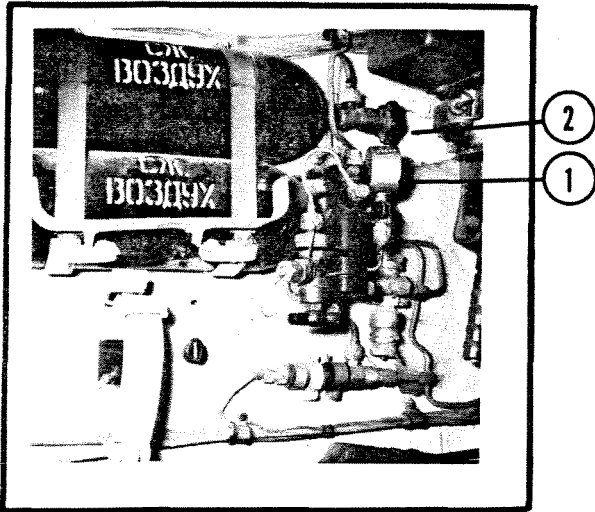

FIG. 2-8. AIR BOTTLES
b. Compressed Air Bottles (Fig. 2-8)
Two 5-liter compressed air bottles are mounted on brackets on the left hull wall behind the driver. They each have a handle valve. Rotate the valve clockwise to close the system and counter-clockwise to open the system. The valves are always left closed until preparing to start the tank. The compressed air gauge (Fig 2-8) displays the pressure in kg/cm² (atmospheres) that the system contains. A minimum of 50 atmospheres is required to start the vehicle with compressed air. The maximum permissible bottle capacity is 150 atmospheres.
b. Open the air bottles by rotating the valve handles counter-clockwise (Fig. 2-8). Minimum air pressure to start is 50 kg/cm².